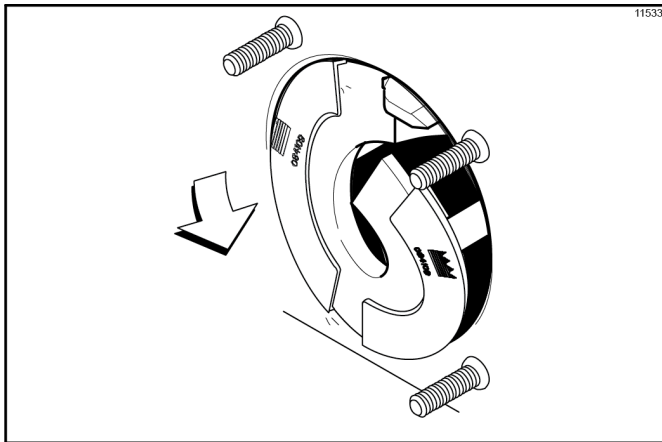

Figure 6-19
8. Slide the beater assembly the rest of the way into the freezing cylinder. Make sure the beater assembly is in position over the driveshaft by turning the beater slightly until the beater is properly seated. When in position, the beater will not protrude beyond the front of the freezing cylinder. (See Figure 6-19.)